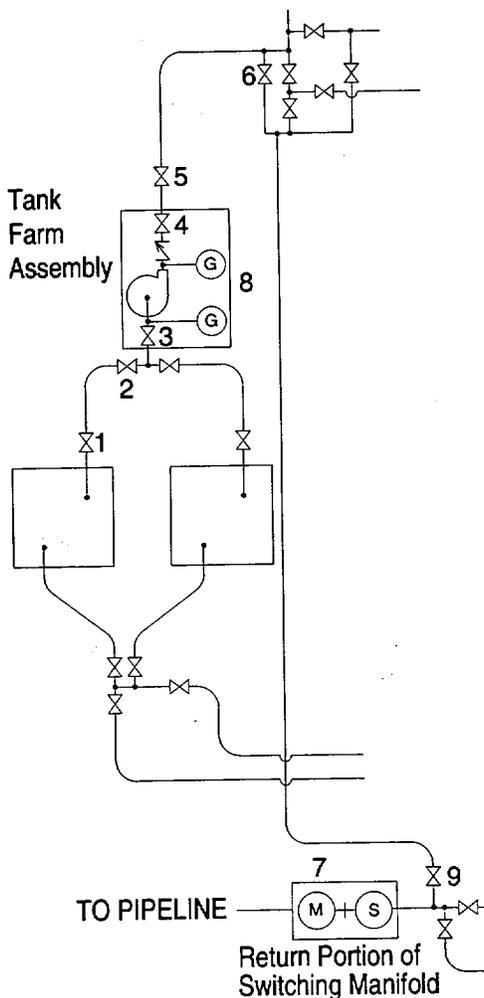

Figure 2-27. Fuel Transfer From Tank Farm to Associated Pipeline
- (6) Transfer Fuel from a Tank Farm (Module) Assembly to the Associated Pipeline System. See (figure 2-27) to transfer fuel from the TPT to the associated pipeline, there must be no back pressure in the pipeline system that exceeds the 600 gpm hoseline pump's discharge head capability.